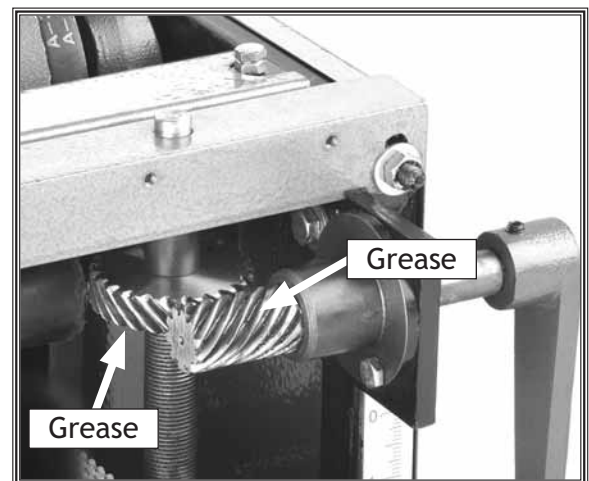

Figure 16. Side gear lubrication.
- **Side gear:** Lubricate the worm and pinion gear with general purpose grease every six months. The dust cover will need to be removed for worm and pinion gear lubrication (see Figure 16).